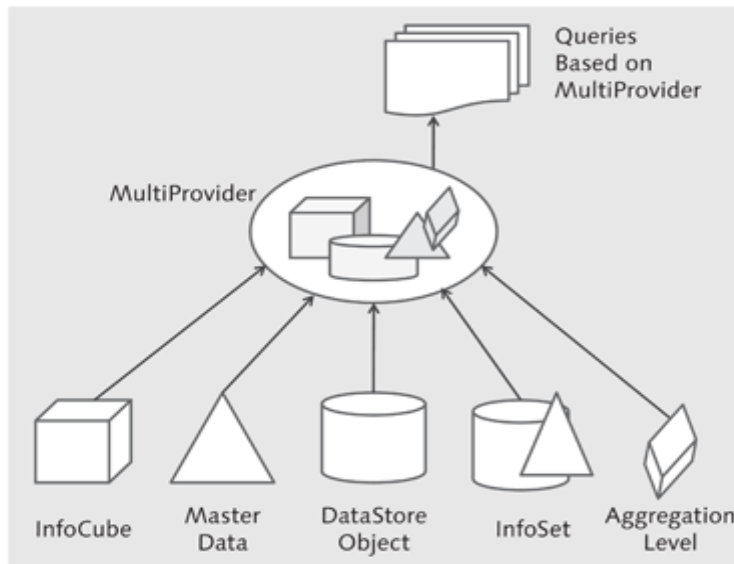
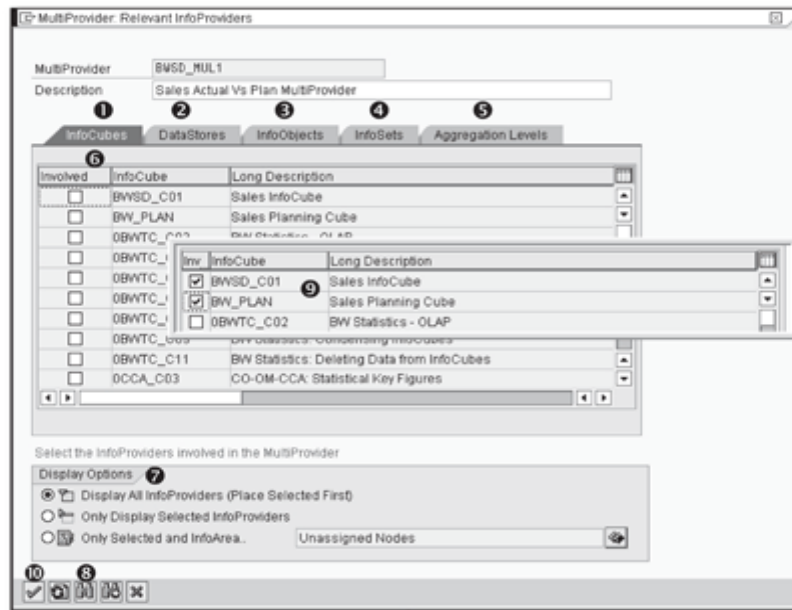

Figure 6.1 MultiProvider: A Logical Definition
Figure 6.5 Creating MultiProvider: Selecting InfoProviders
A MultiProvider is a logical definition that doesn't physically store data. The data lies in the underlying data provider on which the MultiProvider is based. You can create a MultiProvider based on the following objects. This is also shown in Figure 6.1.
MultiProviders can be created based on any combination of objects shown in Figure 6.1, for example, InfoCube to InfoCube (not limiting to two InfoCubes) or InfoCube to InfoObject or DSO to InfoCube. Again, the number of objects included in the definition of a MultiProvider isn't limited to two. And you create queries based on a MultiProvider.
The next screen is MultiProvider: Relevant InfoProvider as shown in Figure 6.5. Because a MultiProvider is based on different data targets/InfoProviders (as shown earlier in Figure 6.1), this screen offers you selections based on the data targets/InfoProviders you want to include in the definition of the MultiProvider.
There are five different tabs available as shown in ❶, ❷, ❸, ❹ and ❺ of Figure 6.5. These tabs allow you to select InfoCubes, DataStore Object, InfoObjects, InfoSets, and Aggregation Levels, respectively. As shown in ❻ of Figure 6.5, nothing is selected.